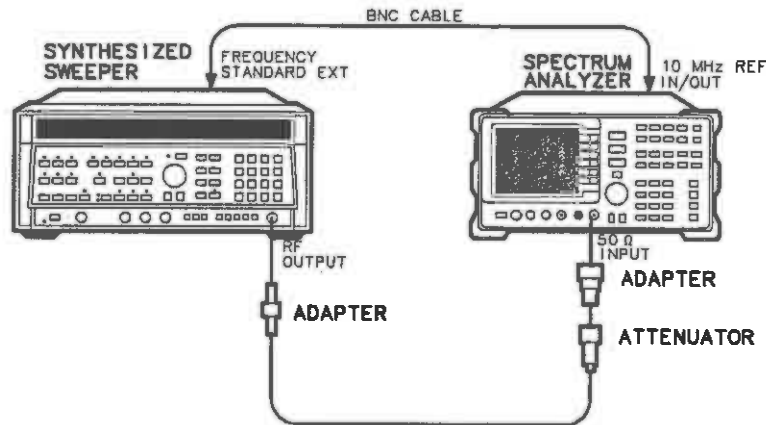

Figure 3-8. Input Attenuator Test Setup,  $\geq 50$  MHz
23. Connect the equipment as shown in Figure 3-8 using the HP 8493C 10 dB attenuator. The HP 8560A provides the frequency reference for the HP 8340A/B.